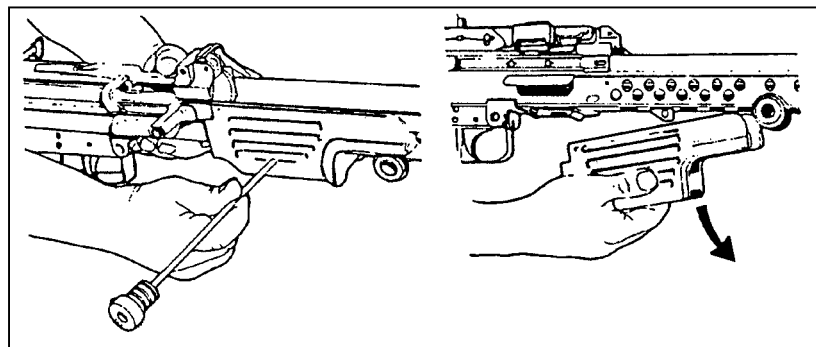

Figure 1-15. Removal of the handguard.
- c. **Removing the Handguard Group.** The handguard group (Figure 1-15) consists of the handguard, handguard retaining pin, and cleaning equipment retaining clip. Push the handguard retaining pin to the left using a cartridge or the spring guide rod; then pull the handguard down.
e. **Replacing the Handguard Group.** To replace the handguard (Figure 1-15), place it on the receiver from the bottom and push it to the rear until it stops. Using the guide rod, push the handguard retaining pin to the right, which locks the handguard into position. Push the handguard down to make sure it is locked.